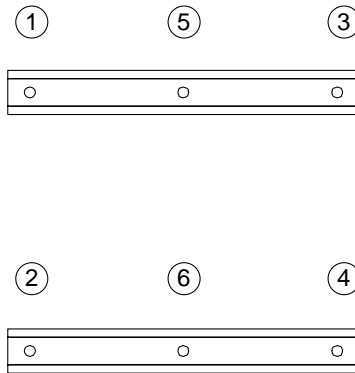

FIGURE 2-11 Tightening Pattern for the PCI I/O Module
- a. Tighten the captive screws in the sequence shown in FIGURE 2-11 until they touch the metal plate.
- b. Tighten each captive screw in the sequence shown in FIGURE 2-11 an additional 1/2 turn.
- c. Tighten the captive screws to a final torque of 0.68 Nm (6.0 inch pounds) in the pattern shown in FIGURE 2-11.